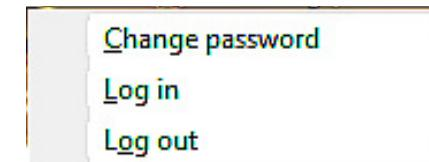

Figure 3: The Login pop-up box for password-protected user accounts
When you are logged in with a password-protected user account, the Login pop-up box (accessed by right-clicking the User rights status bar field) will include an option to change your password (see Figure 3). Click this option if you wish to modify the existing password. The system will
- 2** Click Log out in the pop-up box (see Figure 3). In the 'By level' user login scheme, your access level will automatically revert to Operator.